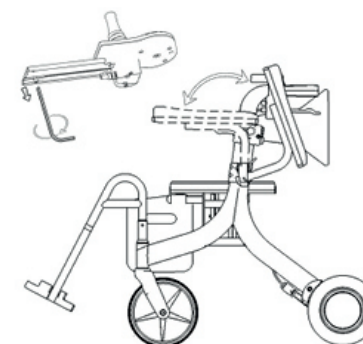

FIGURE 13
d. The backrest can be flipped to face forward or flipped to face in reverse. (Figure 13)